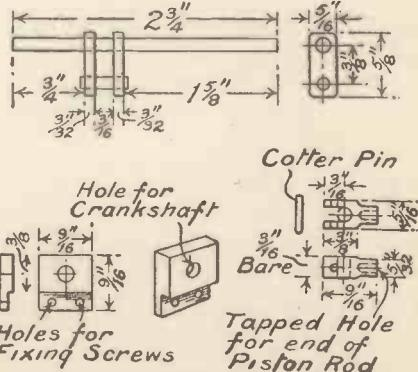

Fig. 8.—Details of Crankshaft, Bearings, and Piston Rod Head.
**The Crank-shaft.**—For this we shall require a piece of iron or steel rod  $\frac{1}{8}$  in. diameter and  $2\frac{3}{4}$  in. long, and a short piece  $\frac{7}{16}$  in. long and  $\frac{3}{2}$  in. diameter for the crank-pin. A piece of a straight French nail will answer very well for the latter. Now take the piece of metal on which the crank-webs have already been marked out, and separate these from the bearing-plates. File the webs down to the scribed line, leaving the edges as square as possible. One face of each can now be "tinned" by coating with a thin film of solder, after which they can be clamped together so that the edges register and held over a Bunsen burner or gas-ring till they become sweated together. Care should be taken to have the face of the web with the centre-punch marks on the outside. The holes for the shaft and crank-pin can now be drilled through squarely, one  $\frac{1}{8}$  in. diameter, and the other  $\frac{3}{2}$  in. diameter, after which hold the parts over the gas flame to separate. Having removed the solder and cleaned up both faces, slip the webs on to the shaft in the position indicated in Fig. 8, leaving a space of  $\frac{1}{16}$  in. between them. Next press the crank-pin in place, and sweat the whole together, allowing the solder to run well into the four joints. The projecting ends of the crank-pin can be filed down flush, and the part of the shaft between the webs must be removed with a hacksaw, and the ends filed flush with the inside faces of the webs. This completes the crank-shaft, which may be cleaned up with fine emery cloth. If the flywheel is provided with a screwed hole in the boss, the end of the crank-shaft must be screwed for a distance of  $\frac{3}{8}$  in., but if a plain hole is provided it can be fixed with a grub screw.
**Fixing and Bearing-Plates.**—The two bearing-plates can be cut out and filed to shape after drilling the two  $\frac{1}{8}$ -in. holes for the crank-shaft and four  $\frac{3}{2}$ -in. diameter holes for the fixing screws. Each plate has now to be filed down a distance of  $\frac{1}{16}$  in. from the bottom, an amount equal to the thickness of the bearing-bracket, as shown in Fig. 8. After these parts are filed away hold one plate in position on the bearing-bracket, as shown in Fig. 2, and carefully mark on the latter the position of the two holes for the fixing screws. These can be  $\frac{3}{2}$ -in. round-headed screws, and the holes in the bracket can be drilled and tapped to receive them, the bearing-plate being then screwed in position. Before fixing the other plate the crank-shaft must be slipped in position in the bearings after putting on two small brass washers (see Fig. 2). See that the shaft is maintained in an easy running position before marking out the holes for the fixing screws in the second plate. Having screwed both plates in position the sides of
to suit one end of the steam-pipe. On the steam-block is arranged to be screwed, as shown. This block must be quite vertical, and must be in such a position that when the cylinder is in place the piston rod is in line with the centre of the crank. The position of the block can be adjusted in this respect by giving it a turn one way or the other on the end of the steam-pipe. When the necessary adjustments are made the steam-pipe can be neatly soldered to the socket. The piston-rod head, shown in Fig. 8, can be fashioned out of a small piece of stick brass, the slot to take the crank-pin being first drilled and then cut out with a hacksaw and finished with a small file. The hole for the cotter pin, which is simply a  $\frac{3}{8}$  in. length of No. 16 gauge hard brass wire, must be drilled so that when the pin is in position the crank-pin is free to turn freely without any shake or rattle. A new piston rod will no doubt have to be fitted, as the one supplied with the cylinder may be too short. This is easily made from a piece of steel rod of the required diameter, and should have a thread cut on each end for screwing into the piston and piston-rod head.